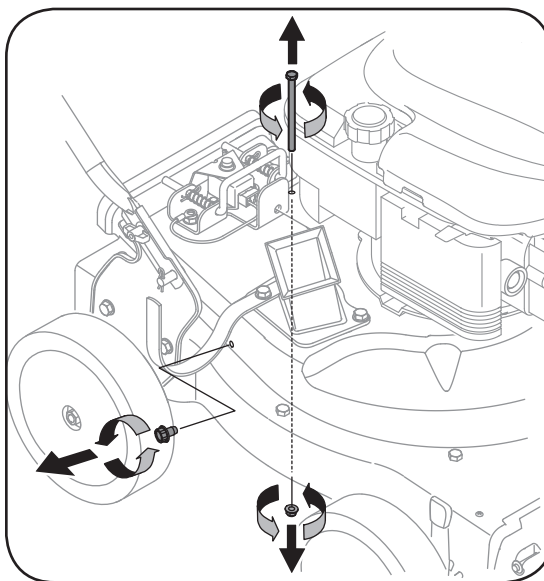

Figure 17
1. **Wheels:** Lubricate each wheel shoulder screw (rear wheel) and pivot arm axle (front wheel) once a season with light oil. Refer to Figure 17.
- Remove self tapping screw on right side of unit that attaches to the flail screen. See Figure 17.
- Remove hex screw on top of rear housing near mounting bracket and the flange lock nut that secures flail screen. See Figure 17.